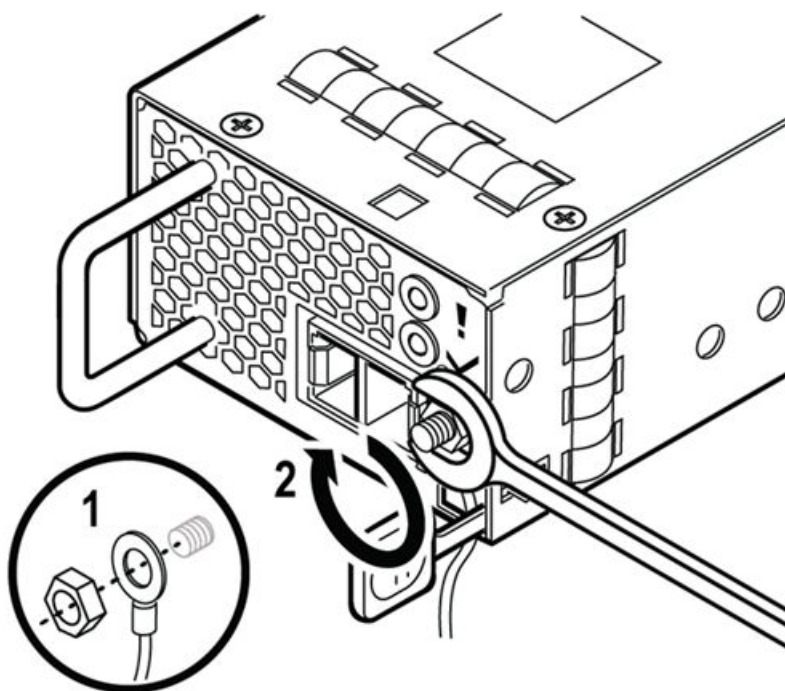

Figure 241: Securing the Ground Wire
- b Slide the ring terminal of the ground wire onto the grounding post (callout 1 in Figure 241).